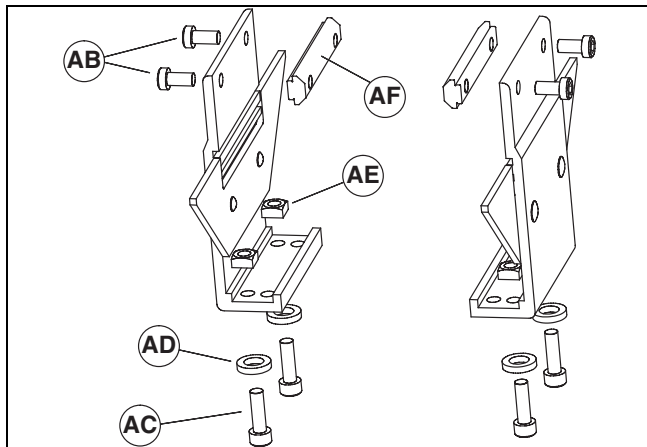
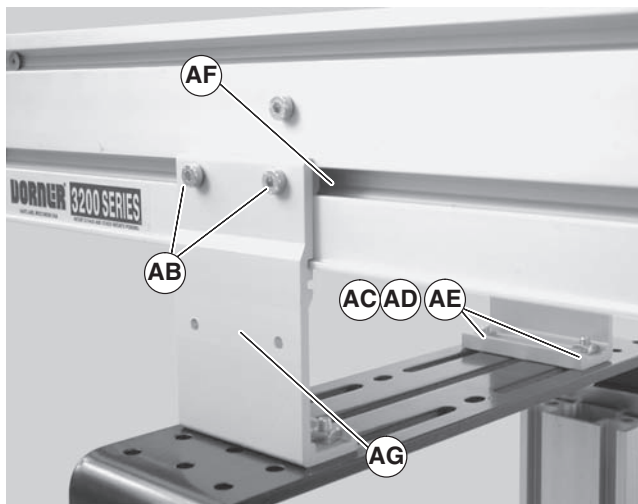

Figure 11
Figure 12
1. Locate brackets. Exploded views shown in Figure 11.
2. Remove screws (Figure 11, item AB & AC), washers (AD), nuts (AE) and T-bars (AF) from brackets.
3. Insert T-bars (Figure 11, item AF) into conveyor side slots (Figure 12, item AF). Fasten brackets (Figure 12, item AG) to conveyor with mounting screws (AB).
4. Fasten brackets to support stand with mounting screws (Figure 12, item AC), washers (AD) and nuts (AE).
5. Tighten screws (Figure 12, item AB & AC) to 60 in-lb (7 Nm).